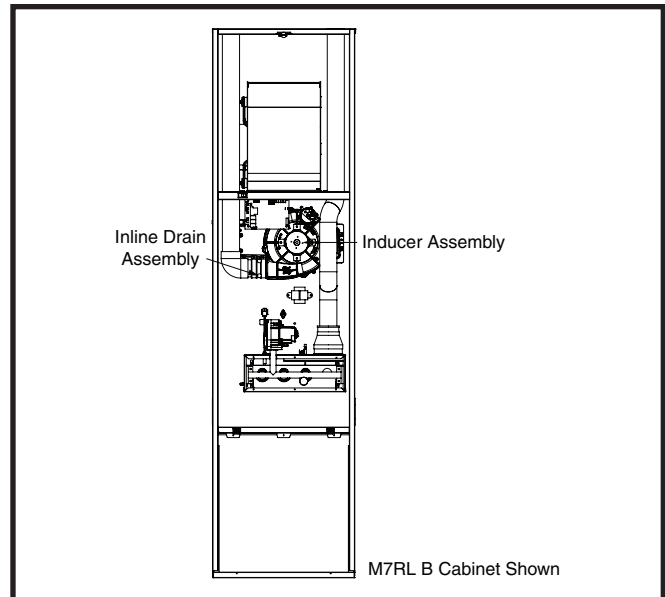

Figure 1. In-line Drain Assembly Location
3. Loosen the right hose clamp on the in-line drain assembly connecting the inducer to the vent pipe. See Figure 1.